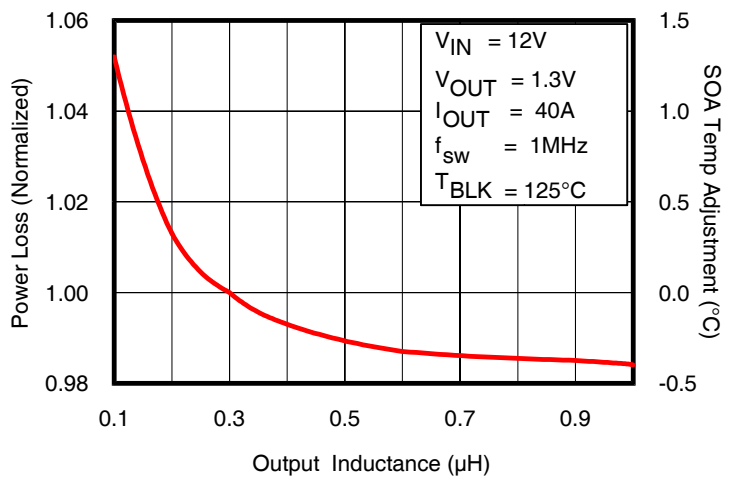

Fig. 6: Normalized Power Loss vs. Inductance
- (Fig. 6) Normalized power loss for inductor value  $\approx$  1.013
- (Fig. 6) SOA Temperature Adjustment for inductor value  $\approx 0.25^{\circ}\text{C}$